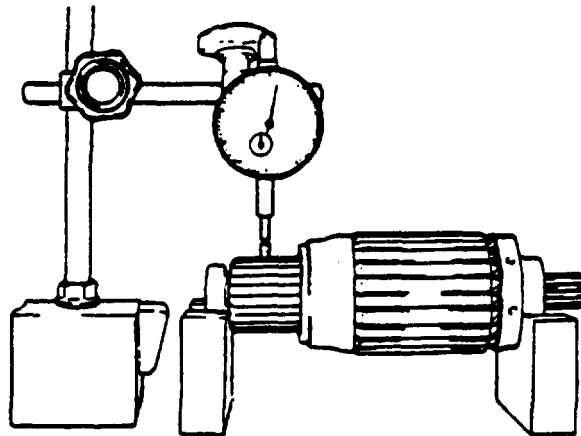

FIGURE 3-26. Checking Commutator Run-Out
- a. Check armature commutator run-out, refer to FIGURE 3-26 as follows:
- (1) Place armature bearings on V-blocks.